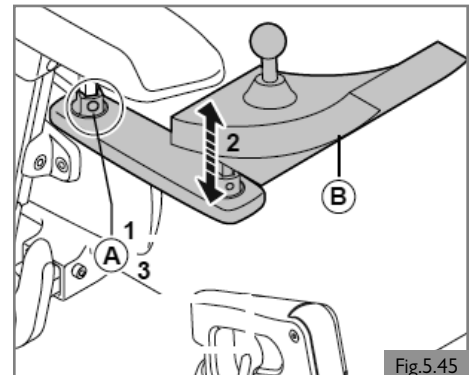
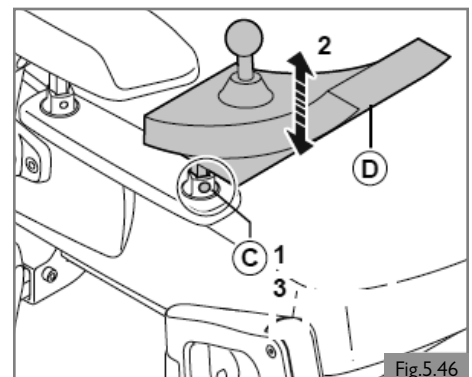

Fig.5.45
Fig.5.46
1. Loosen (A) by one turn.
2. Adjust (B) to the desired position.
3. Tighten (A). See section 9 for specified torque values.
**Height of the controller (1) (Fig. 5.45)**
**Height of the controller (2) (Fig. 5.46)**
1. Loosen (C) by one turn.
2. Adjust (D) to the desired position.
3. Tighten (C). See section 9 for specified torque values.